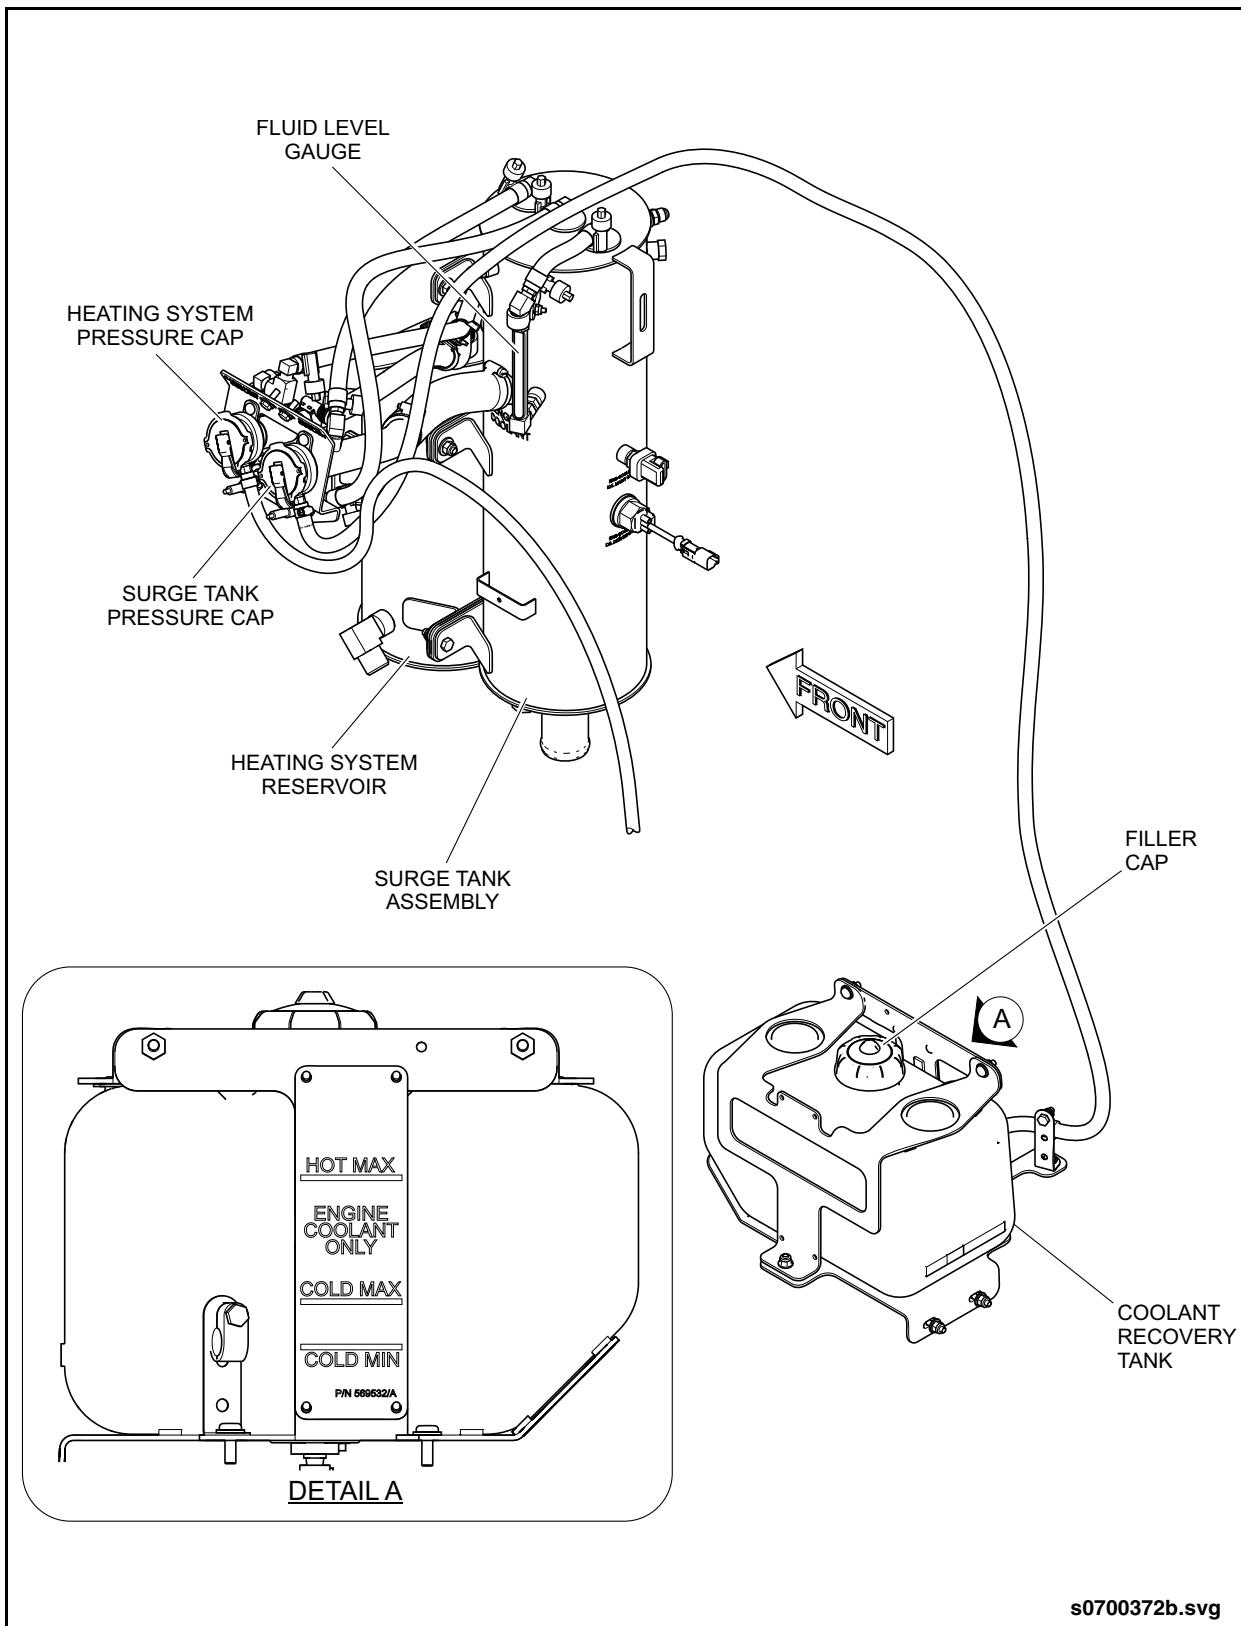

Fig. PM-19: Coolant Level Inspection
2. Top off coolant to the correct level as required using premix antifreeze. Refer to 2.34. "Fluid & Lubrication Guide" on page 114 in this section for antifreeze specification. See "Fig. PM-19: Coolant Level Inspection" on page 46.